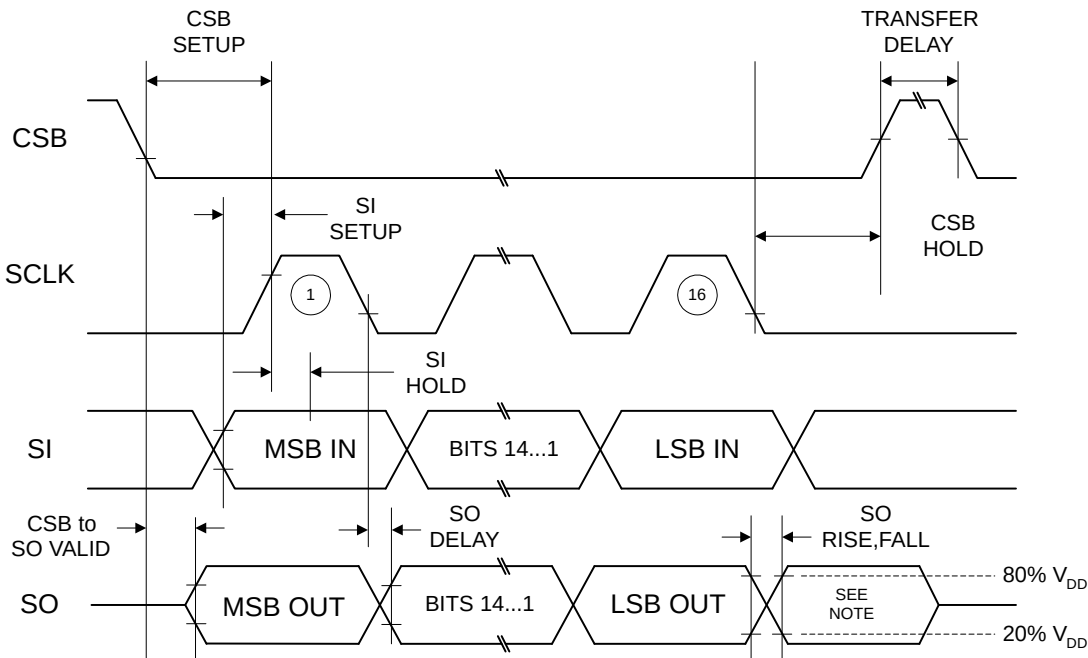

Figure 10. SPI Timing Diagram
**SERIAL PERIPHERAL INTERFACE** (Figure 10)  $V_{CCX} = 5.0\text{ V}$ ,  $V_{DD} = 3.3\text{ V}$ ,  $F_{SCLK} = 4.0\text{ MHz}$ ,  $C_{LOAD} = 200\text{ pF}$